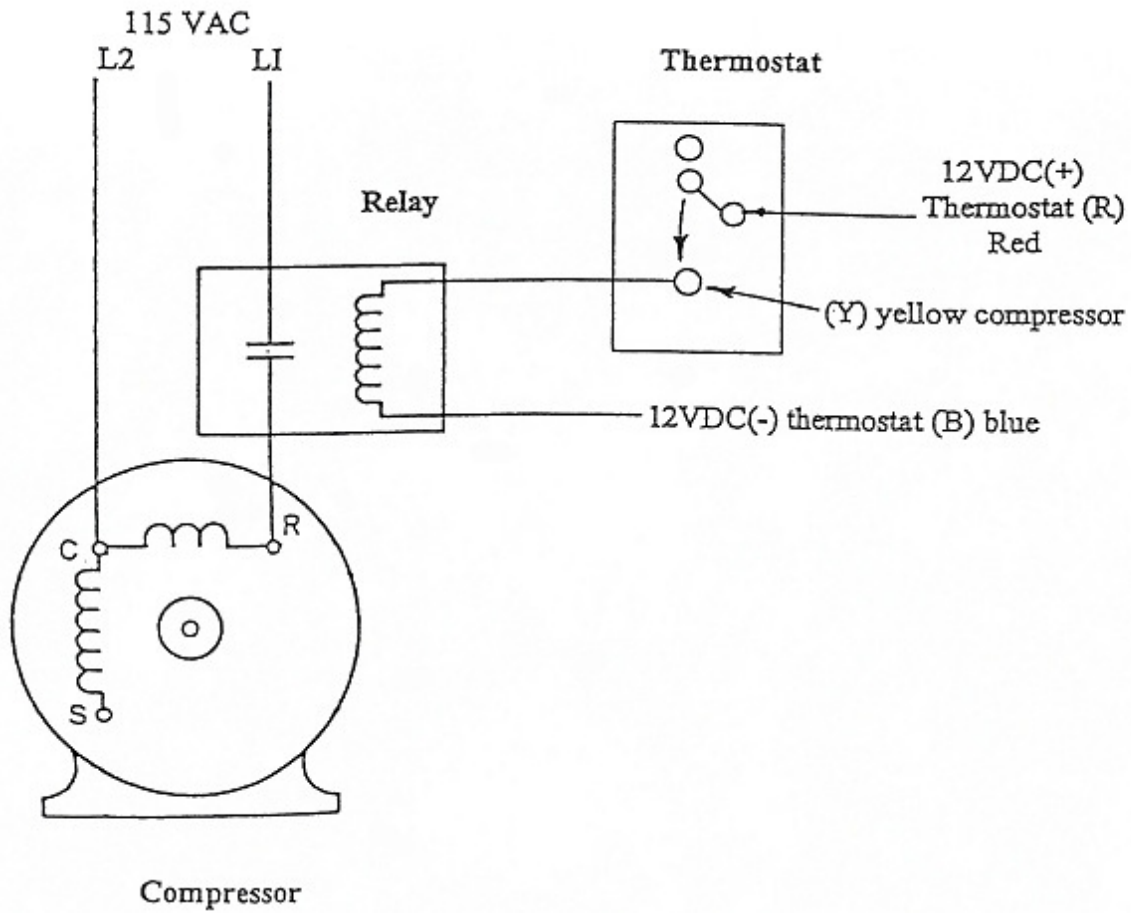

FIGURE 1
As shown in Figure 1 on page 6, the 115 VAC power to the compressor is interrupted by a set of normally open contacts on the relay. In order for these contacts to close, 12 VDC must be applied by the wall thermostat to the relay coil. When the thermostat switch is placed in the cool position, 12 VDC (+) travels from the thermostat red wire to the thermostat yellow (Y) wire and then to the relay coil. When the coil is activated, an electromagnet inside the relay will pull the contacts closed. The 115 VAC will now operate the compressor until the thermostat opens or the system switch is turned to the off position.
Figure 1 shows a very simplified control circuit for compressor operation only. The entire control circuit for the air conditioner/heating system would include the rest of the thermostat functions and possibly 2 or 3 more relays. In addition to the compressor relay, you would need a separate relay for **Low Fan**; one for **High Fan**, and possibly one for **Heat** if a heat pump or electric heating element is used. Please refer to the previous lesson or refer to Figure 1 for proper wiring from the wall thermostat to each individual relay.